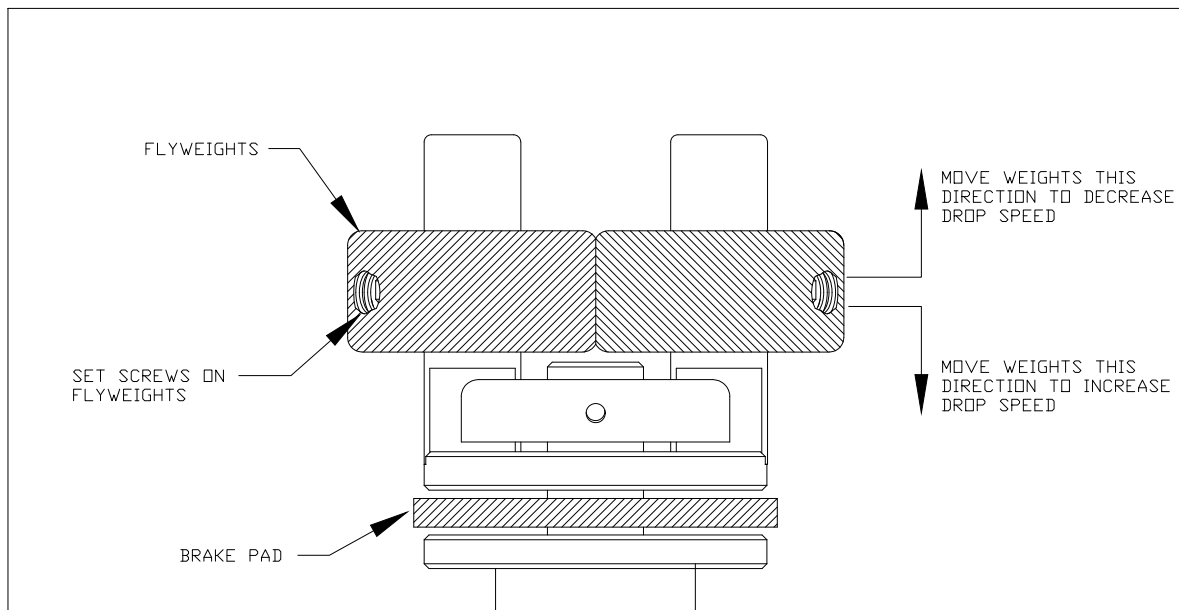

FIGURE 7
- a. To slow drop speed of the curtain, adjust flyweights outward, away from the brake pad as shown in Figure 7.
- b. To increase drop speed of the curtain, adjust flyweights inward, toward the brake pad as shown in Figure 7.